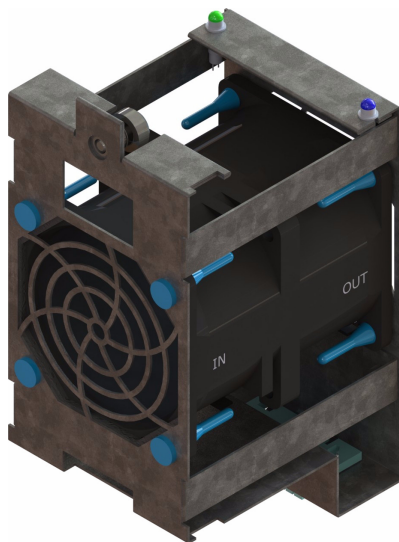

Figure 4-5 Fan Module
- Remove the front chassis cover (see “Removing the Front or Rear Chassis Cover” on page 140) and locate the fan module with the illuminated blue LED (Figure 4-5).